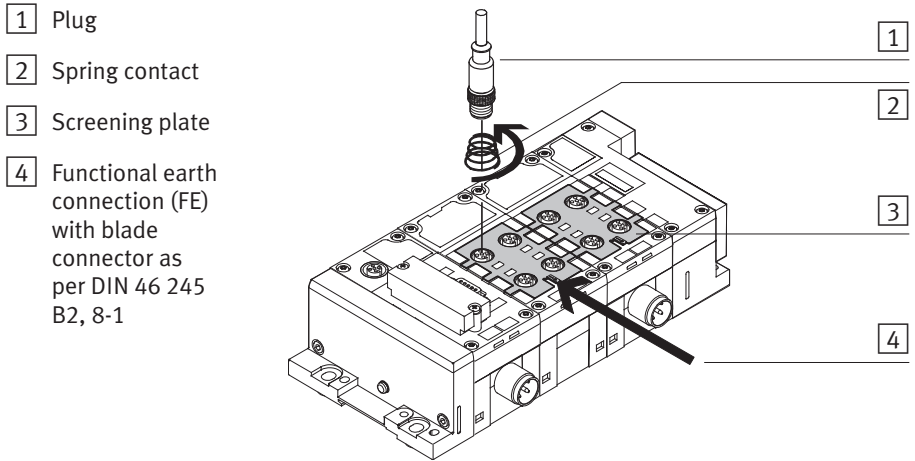

Fig. 1/3: Connecting the screening/shield plate
- Connect the earth cable of the screening/shield plate with low impedance to the functional earth connection (FE) as per Fig. 1/3.